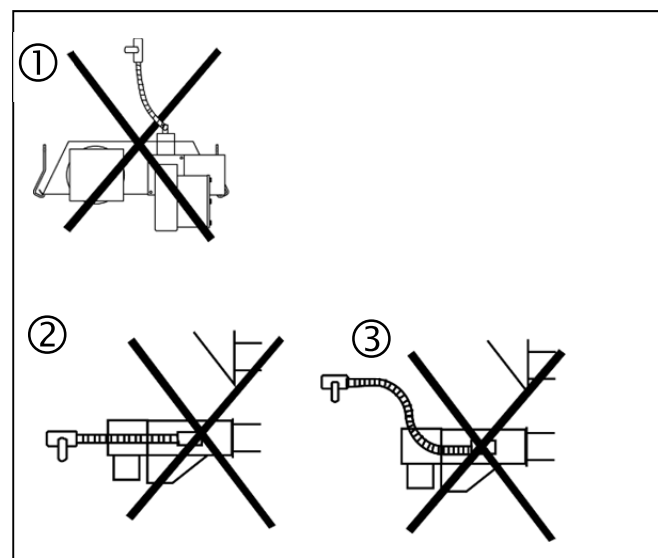

Fig 32: Wrong mounting of flexible hoses
- ⇒ Wrong mounting of flexible hoses shown in Fig 32 [sketches ① to ③].